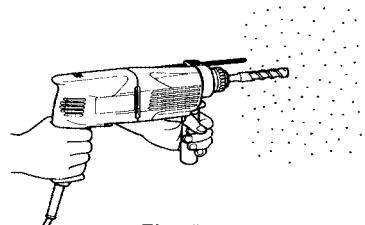

Fig. 7
(1) Mount the drill bit.
(2) Pull the trigger switch after applying the drill bit tip to the drilling position (Fig. 7)
(3) Pushing the rotary hammer forcibly is not necessary at all. Pushing slightly so that drill dust comes out gradually is just sufficient.
- When the drill bit touches an iron reinforcing rod, the bit will stop immediately and the rotary hammer will react to revolve. Therefore please grip the side handle and handle tightly as shown in Fig. 7.